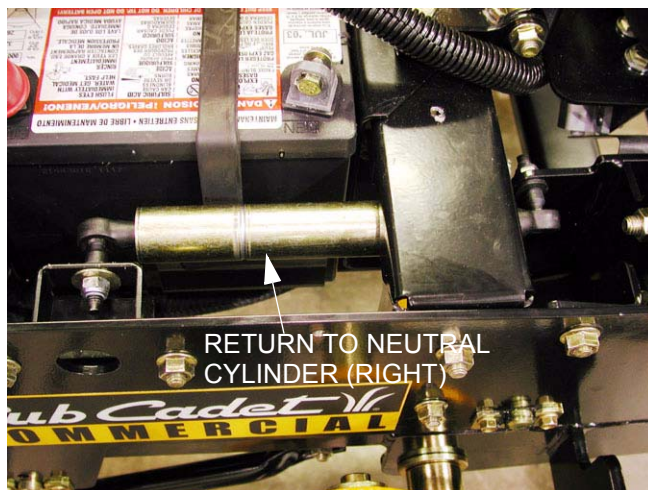

Figure 3.13
- The return to neutral cylinders should both work as advertised. See Figure 3.13.